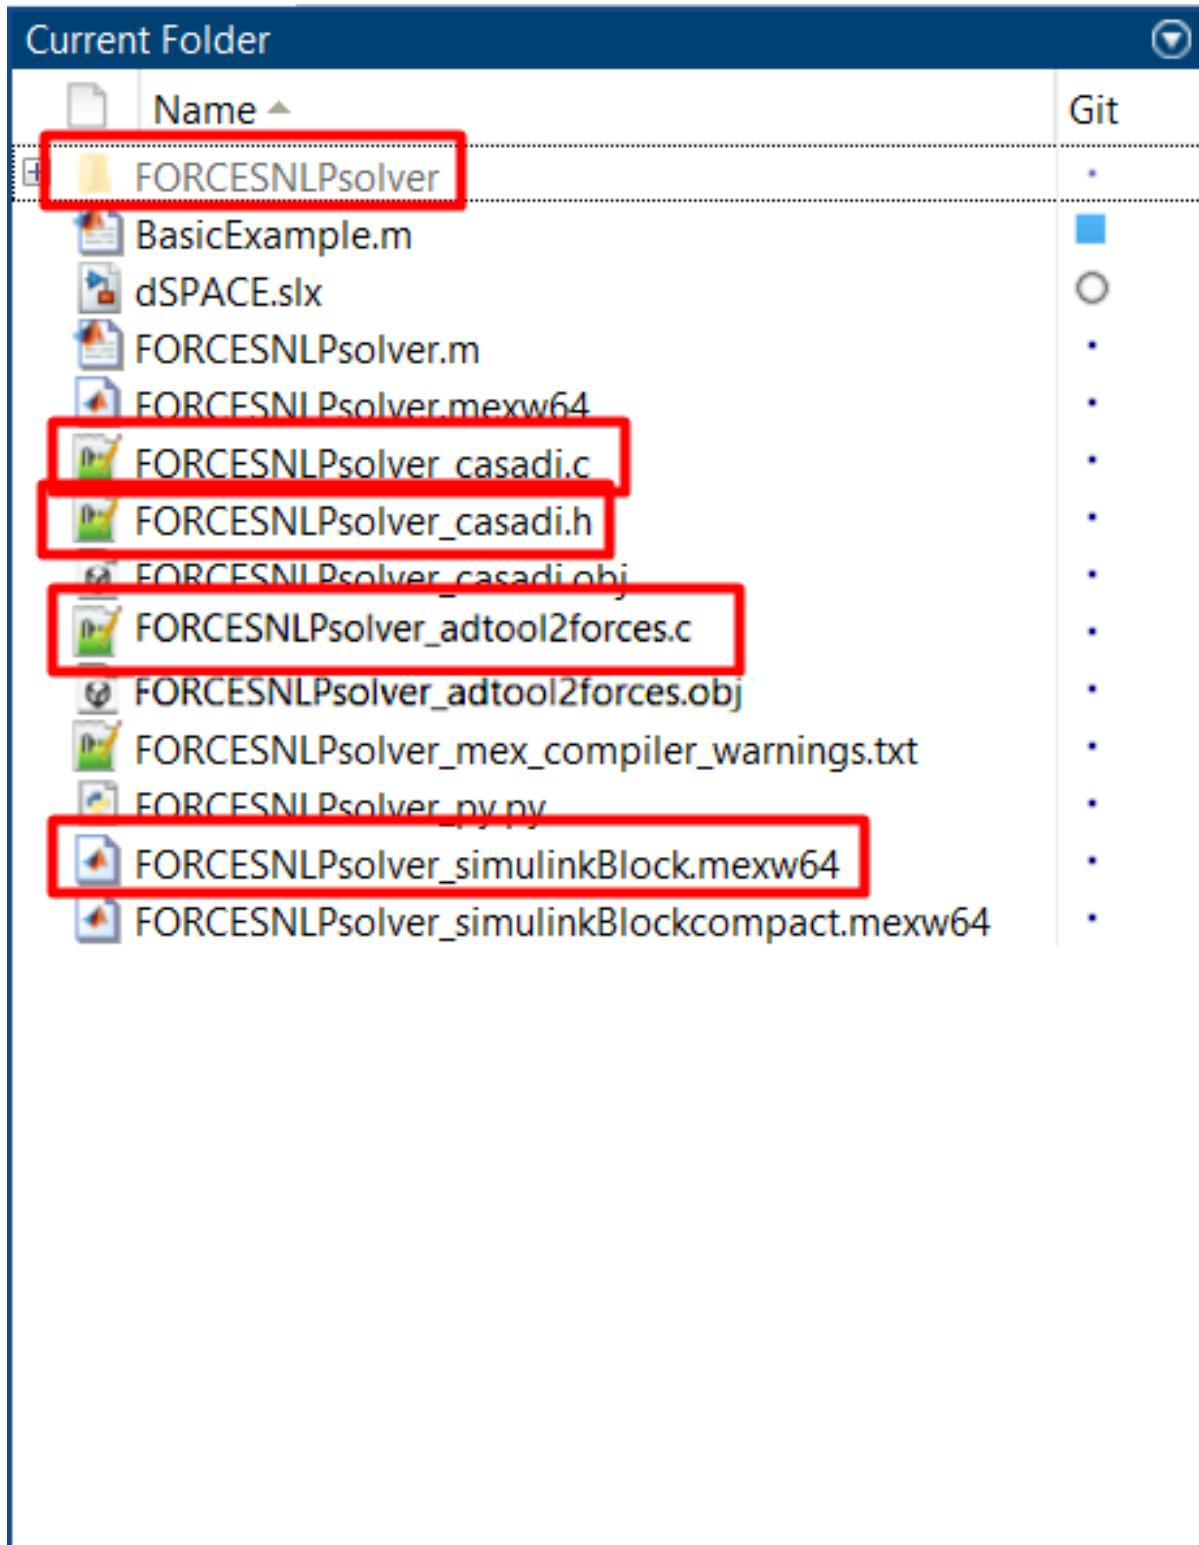
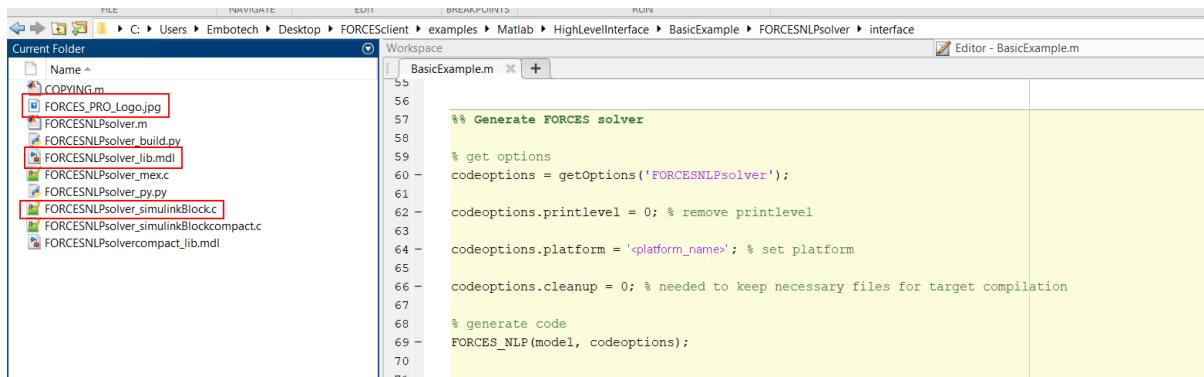
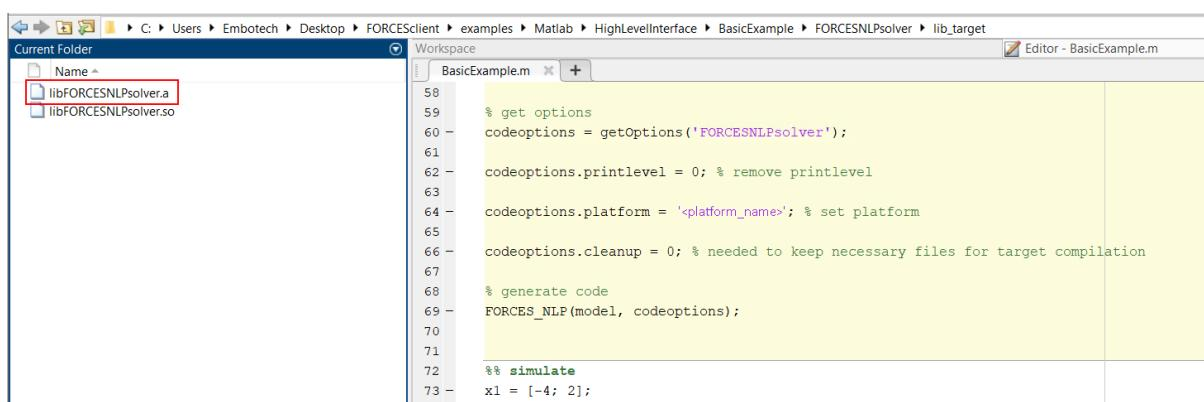

Figure 13.31: Generated files.
Figure 13.32: Solver interface files.
Figure 13.33: Solver libraries.
- 4) Run the `BasicExample.m` script to perform code generation for your solver (henceforth referred to as `FORCESNLPsolver`, placed in the folder “BasicExample”). This will create the necessary files for your building (see Figure 13.31, Figure 13.32 and Figure 13.33).